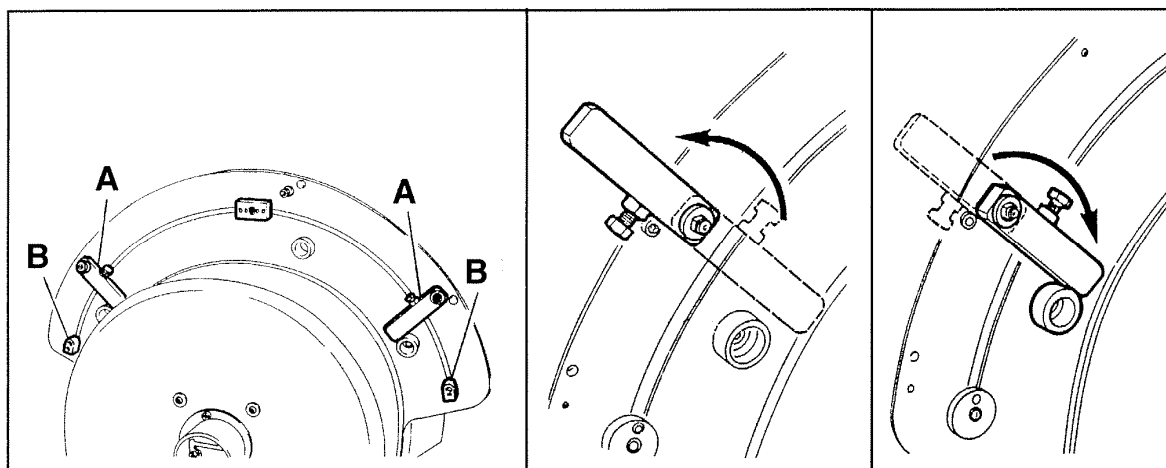

Fig. 08-03
8.1 TAGLIO A 20°/45° DX O SX (Fig. 08-03)